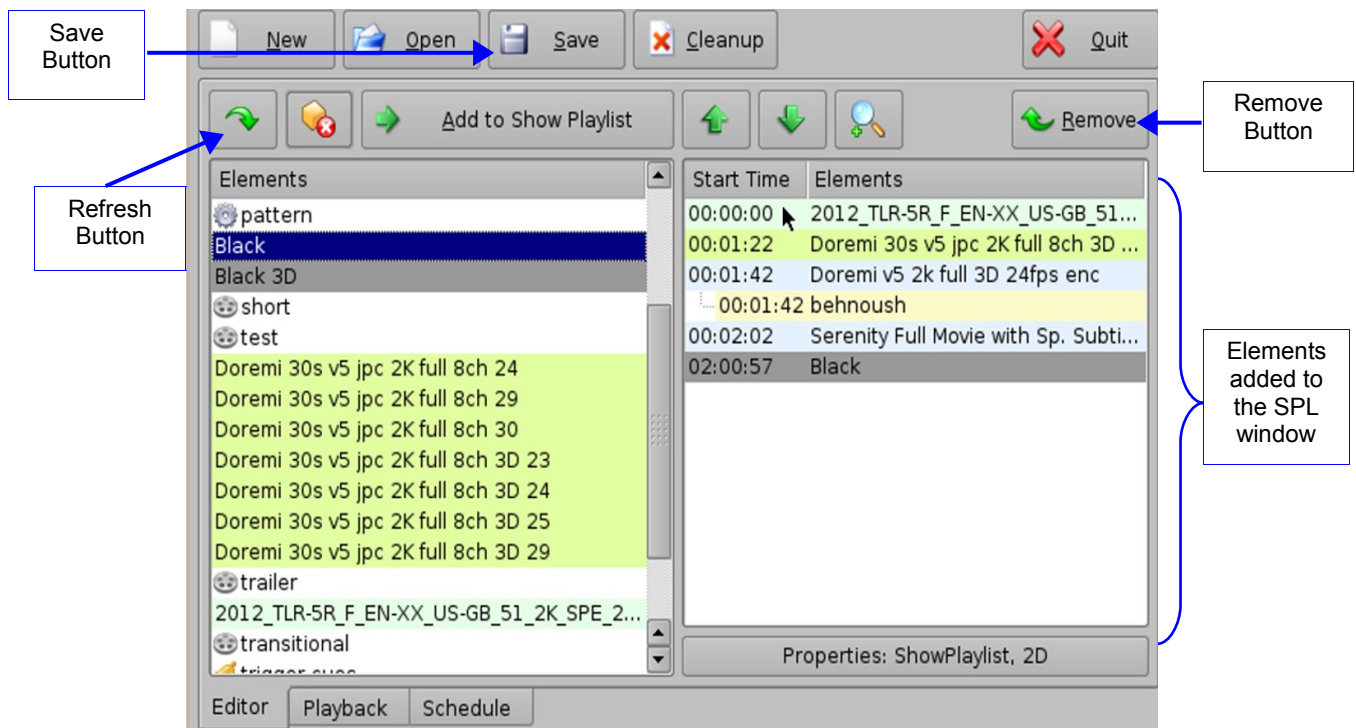

Figure 160: CineLister GUI – Editor Tab
- Click on the Save button. The user will be prompted to a window asking them to name the newly created SPL (Figure 160).
- To move an element to the top of the Show Playlist, select it and click on the arrow pointing to the top (Figure 160).
- To move an element to the bottom, select it and click on the arrow pointing to the bottom (Figure 160).
Anytime new content and a package is ingested into the server, the items will not be displayed automatically in the CineLister GUI if CineLister is already running. Click on the Refresh button from the Editor tab (Figure 160) to see an updated version of all available items that have been ingested.
- Go to the CineLister Editor tab (Figure 160). The user can either open an existing SPL or create a new SPL to export.
- Go to the CineLister Editor tab (Figure 160) and click the Open button.